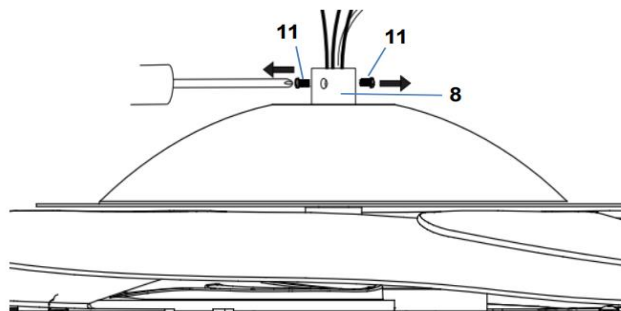

Fig. 6.2
2. Loosen the set screws (11) on the down rod coupling housing (8). (Fig. 6.2)